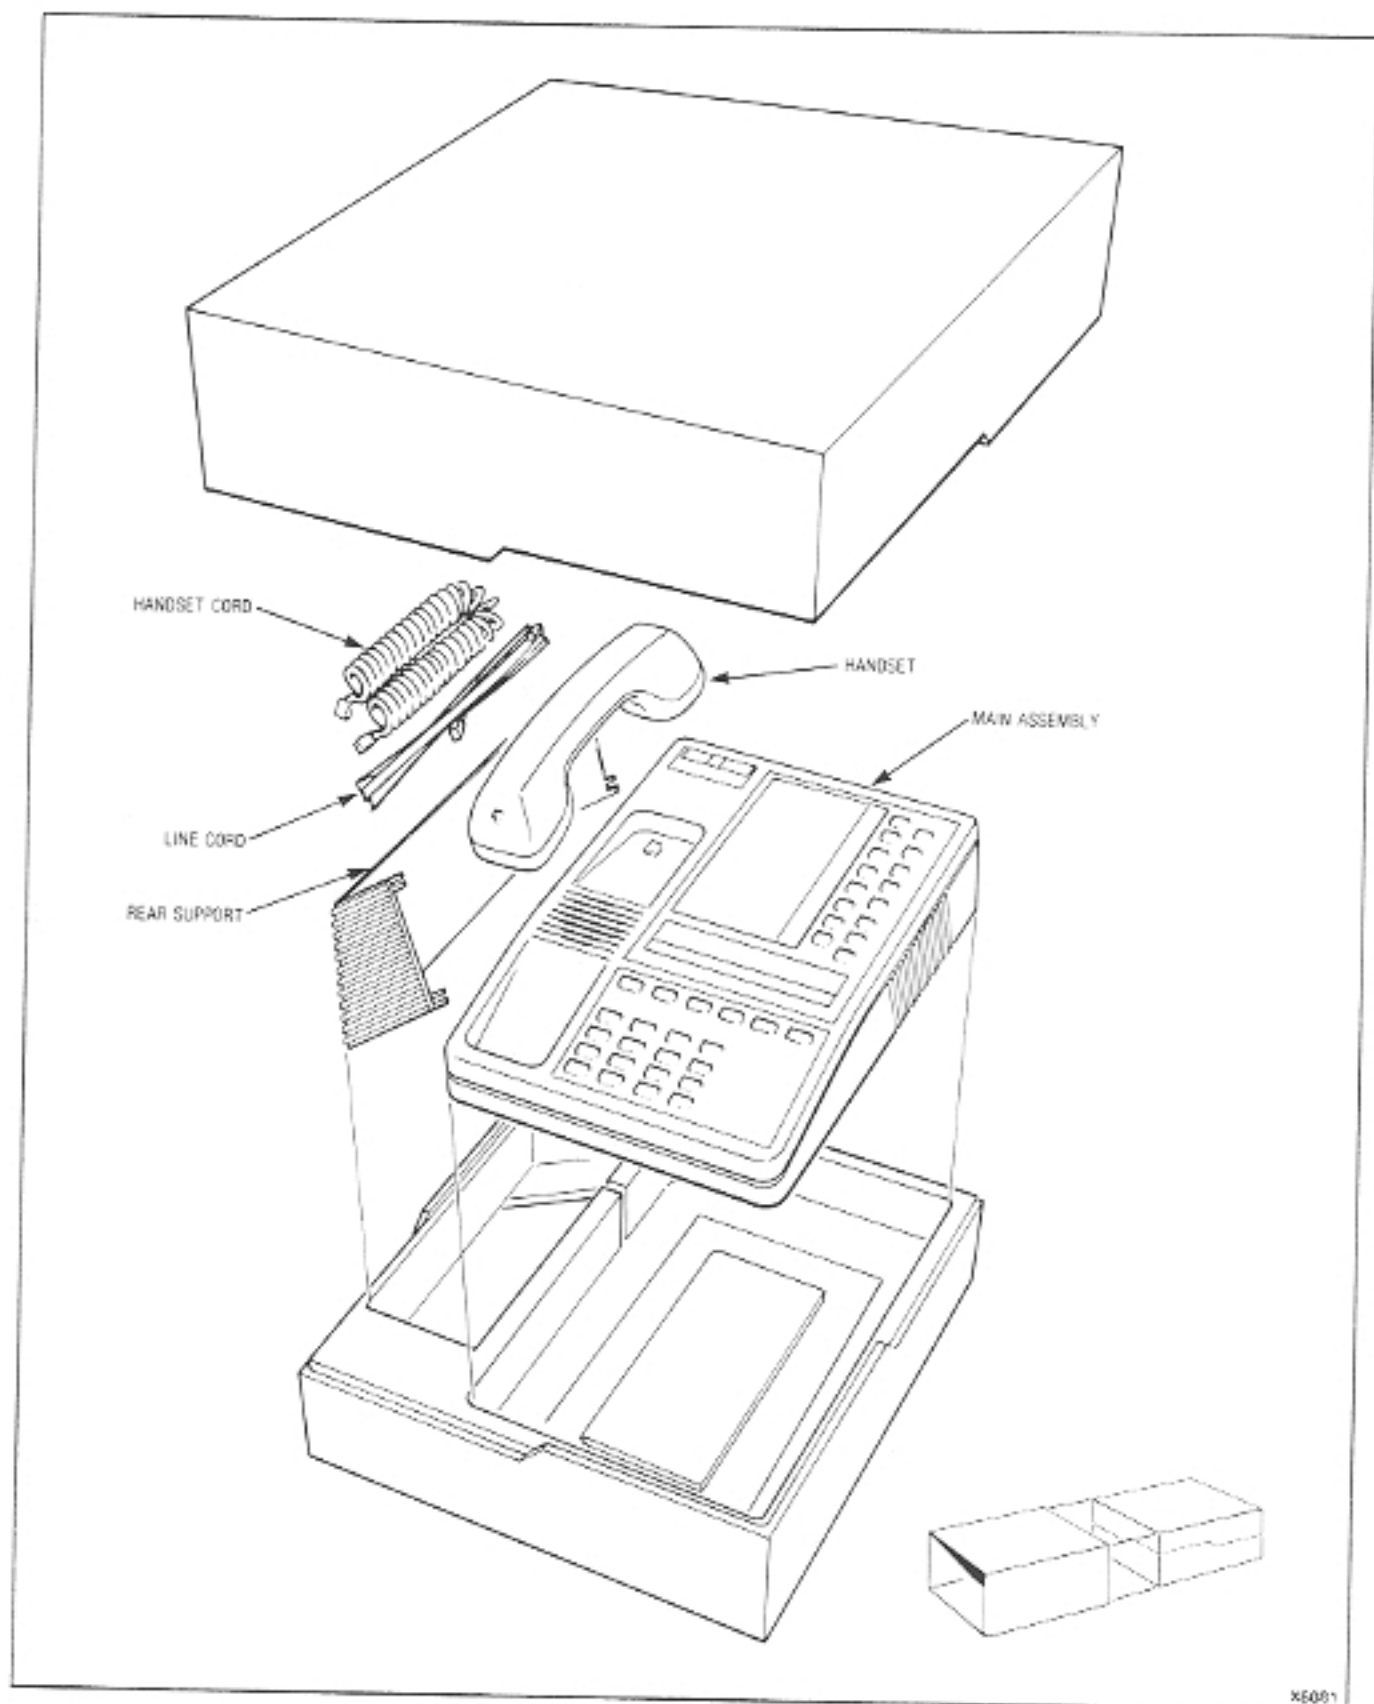

Figure 3-1 SUPERSET 4 and Packaging
3.01 The SUPERSET 4 is shipped in a single carton (Figure 3-1) which contains the SUPERSET 4 disassembled into main assembly, handset, handset cord, line cord, and rear support. Additional items in the carton are identification cards (for telephone number and lines) and protective lenses for these cards, reference guide, installation guide, and warranty tag.